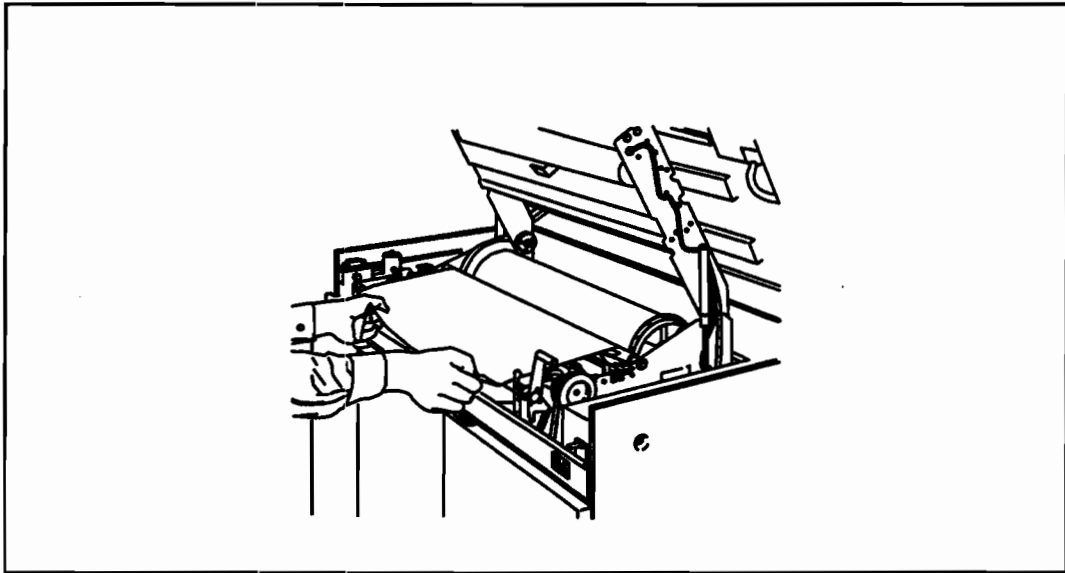

Figure 3-23. Media Routing
10. Route the media over the writing head and developer bar as shown in Figure 3-23.